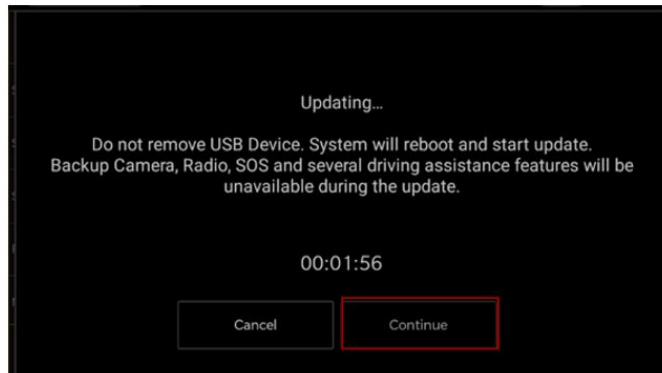

Fig. 5
18. Press the “**Continue**” on the display screen Fig. 5.